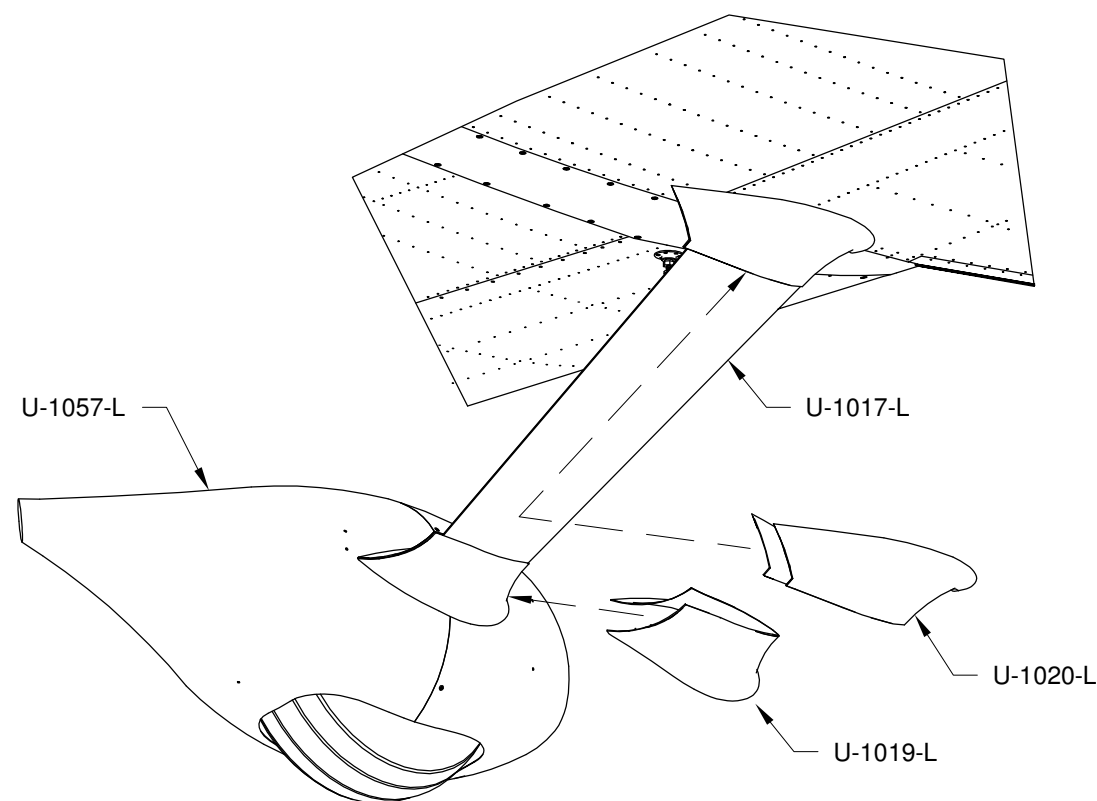

FIGURE 1: INSTALLING INTERSECTION FAIRINGS
Step 2: Repeat Step 1 for the U-1020-L Upper Intersection Fairing. See Page 48-12, Figure 1.